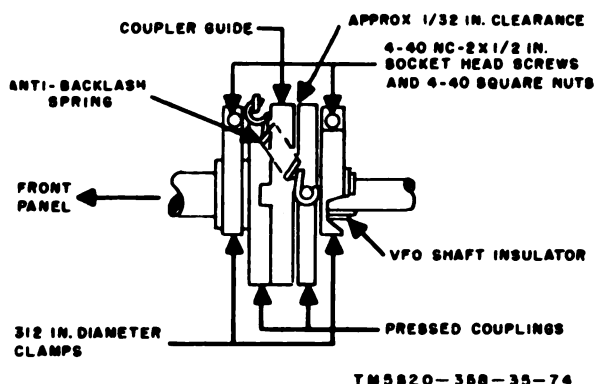

Figure 70. Oldham coupler details.
(1) Preset the receiver (para 36). Turn the FUNCTION switch to MGC. Allow 15 minutes for warmup.
(2) Tune the receiver to station WWV or a local station of known frequency. Be sure to set the frequency indicator exactly to the station's assigned frequency.
(3) Turn the BANDWIDTH switch to .1.
(4) Remove the antibacklash spring on the Oldham coupler (fig. 70) and loosen the vfo (fig. 37) shaft clamp nearest the front panel.